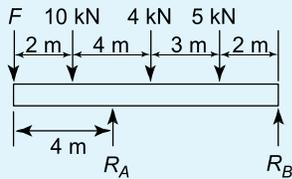

Figure 5.21
8. A uniform girder carrying point loads is shown in Figure 5.21. Determine the value of load F which causes the beam to just lift off the support B .